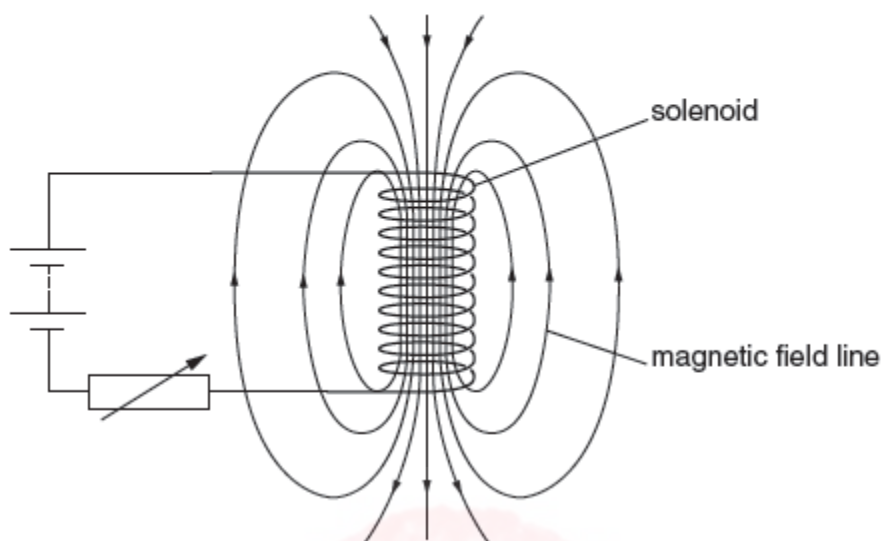

Fig. 9.1
- 9 A circuit contains a battery, a variable resistor and a solenoid. Fig. 9.1 shows the magnetic field pattern produced by the current in the solenoid.